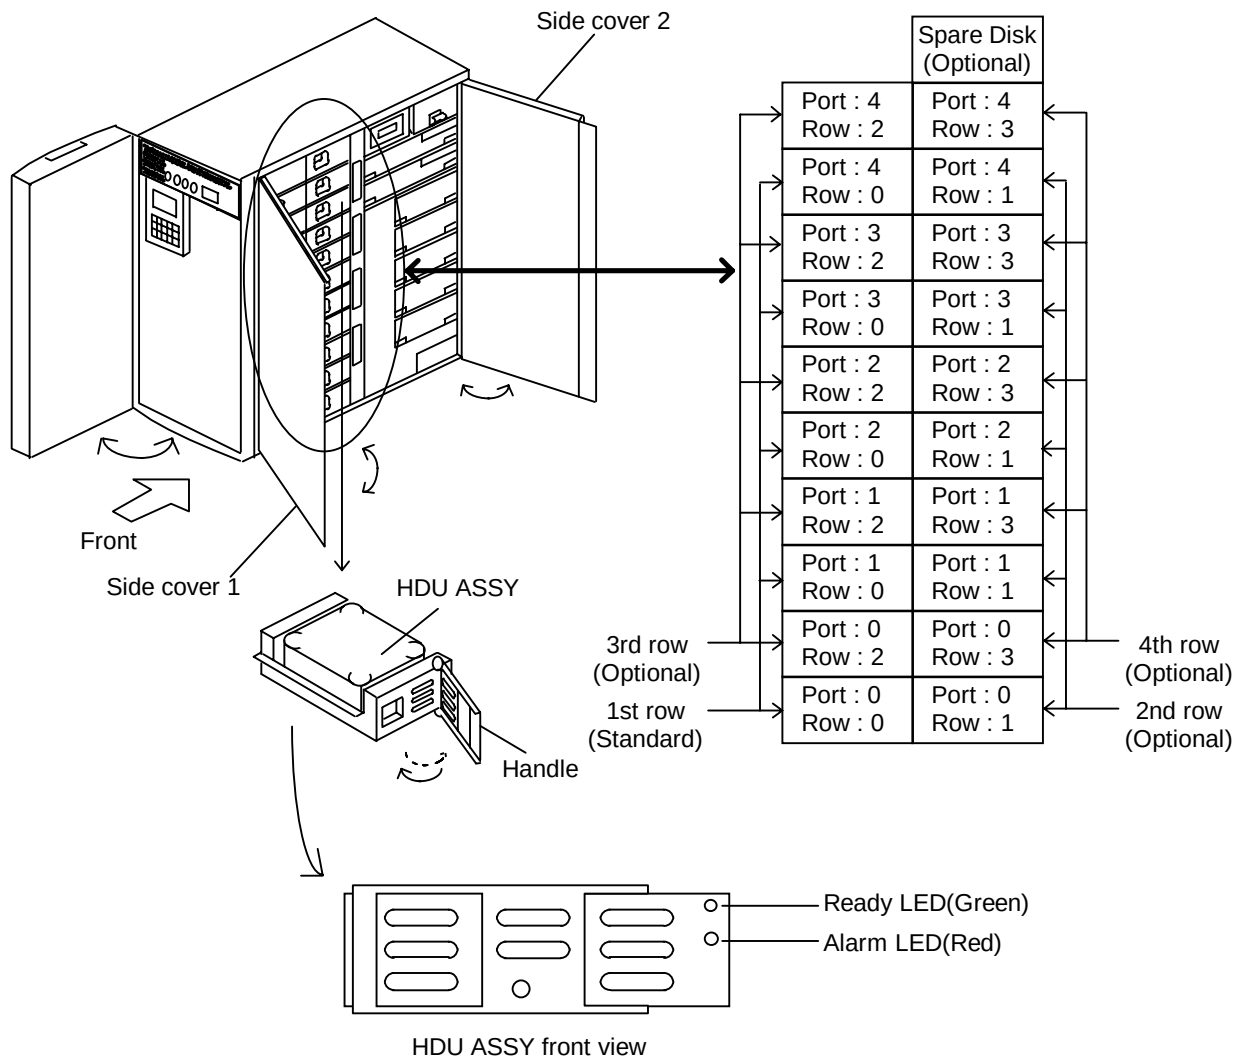

Figure 2.9.1 Installing the HDU ASSY
- (2) Open the front cover and the side covers.
(3) Remove the old HDU ASSY and set the new HDU ASSY. (See Figure 2.9.1 in CK-OPTION0210.)
(4) Set the DIP switches 4 and 6 on the CTL ASSY to down.